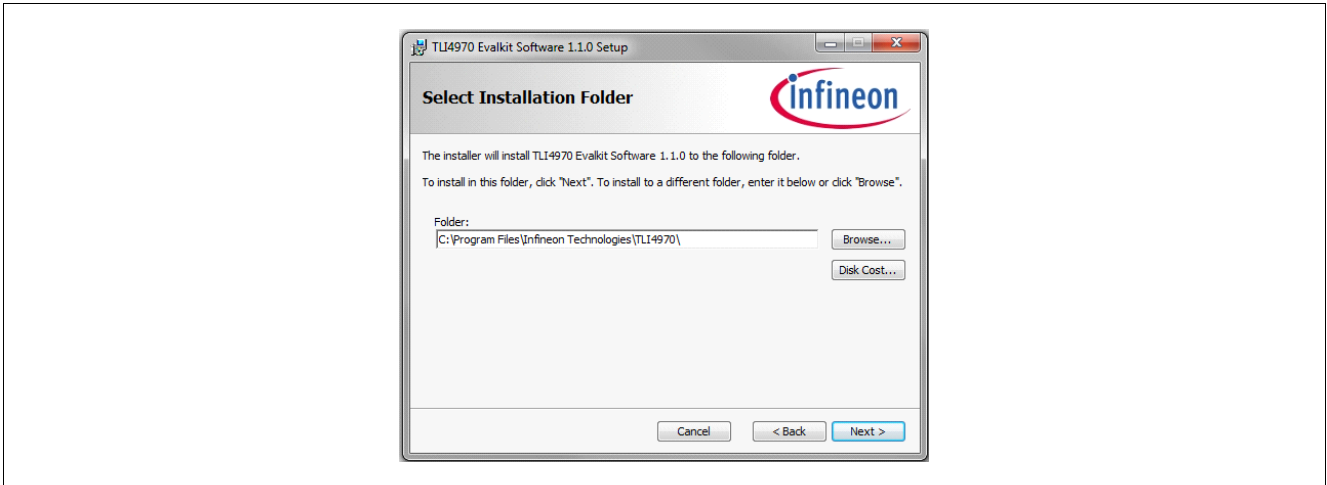

Figure 4 EvalKit Installer - Select Installation Folder
3. Then, the installer will prompt for the installation folder. Accept the default one or use another directory, see Figure 4.